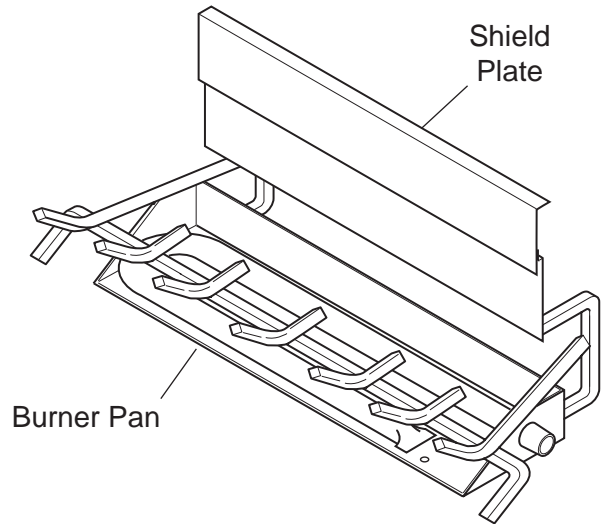

Figure 34 - Sliding Shield Plate Down Back of Burner Pan
1. Slide shield plate down back of burner pan. *See Figure 34.*